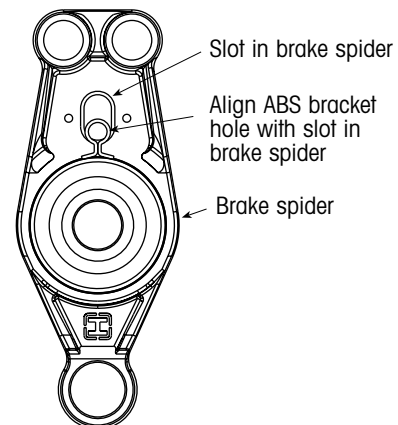

Figure 2. Aligning the ABS bracket with the brake spider slot
4. To position the ABS bracket around the outside diameter of the axle, align the center of the ABS bracket hole with the center of the slot in the brake spider. Refer to figure 2.